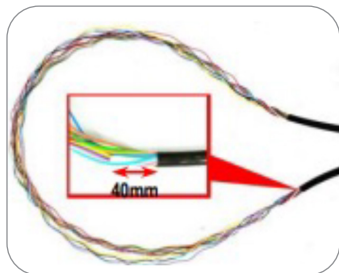

Figure 17
1. Strip the jacket of the feeder for about 6-8 ft (1800-2400 mm). Cut the central membrane leaving 1.5 in. (40 mm) from both ends of the jacket. (Figure 17)